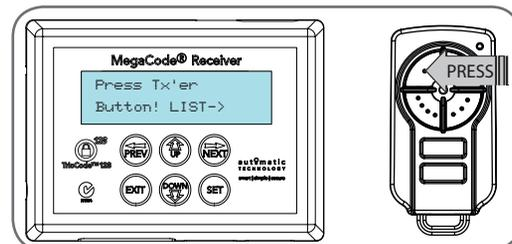

Fig 4.3
- Press and hold for approximately 2 seconds the transmitter button you wish to use to operate the Door Opener (e.g. button 1) (Fig. 4.3).